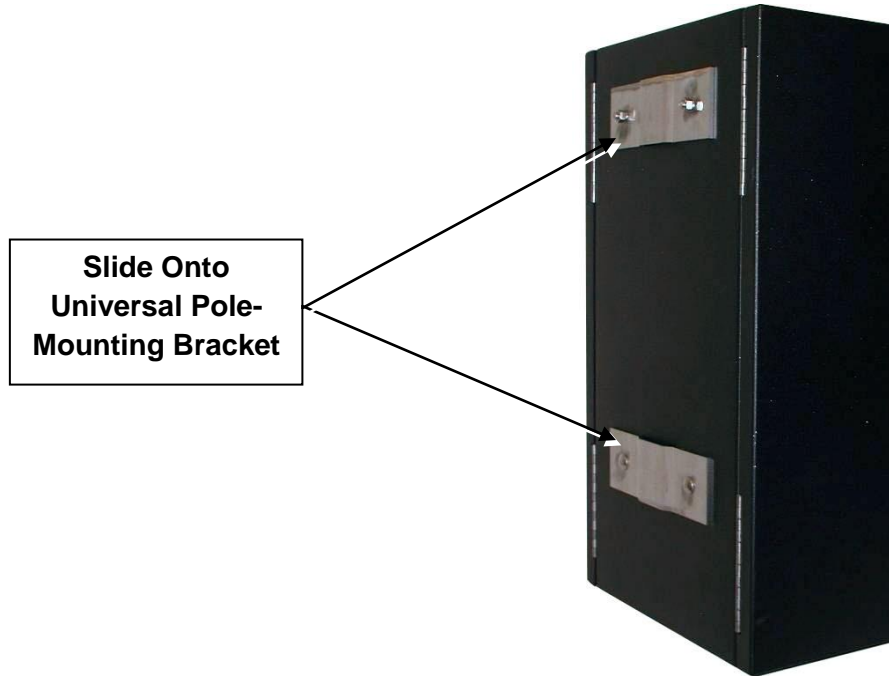

Figure 13: XUPS Rear Mounting Brackets
3.42 Lift the unit onto the Universal Pole-Mounting Bracket attached to the power pole by sliding the two receptacle brackets on the back of the XUPS onto the tabs of the Universal Pole-Mounting Bracket. See Figures 13 & 14.